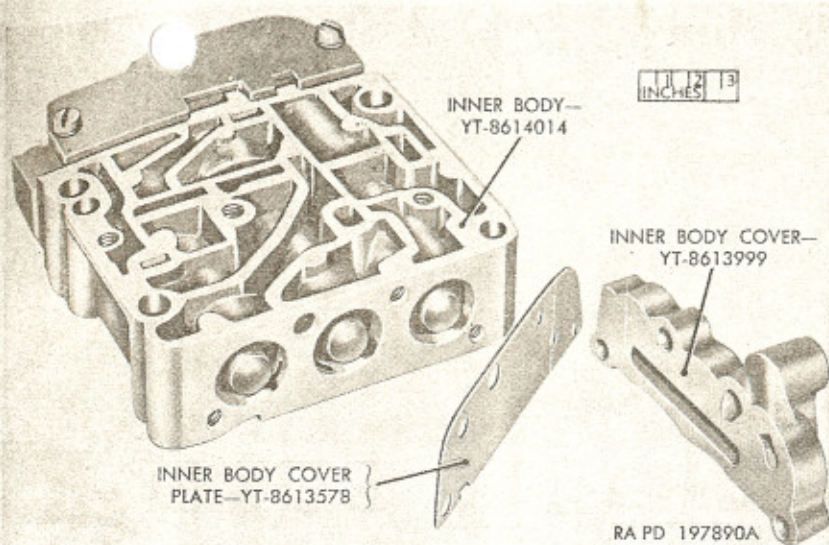
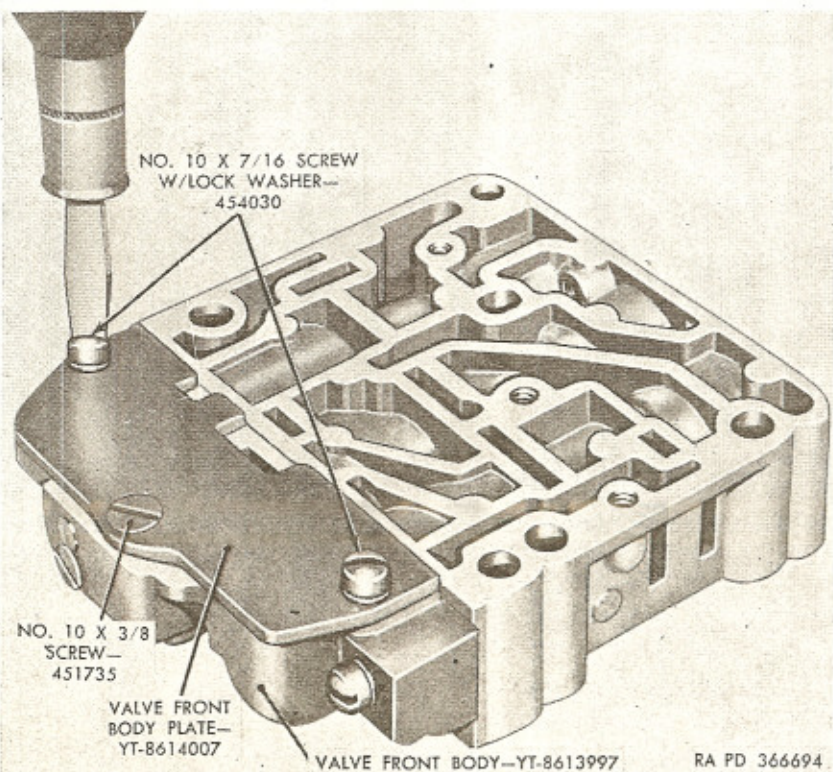
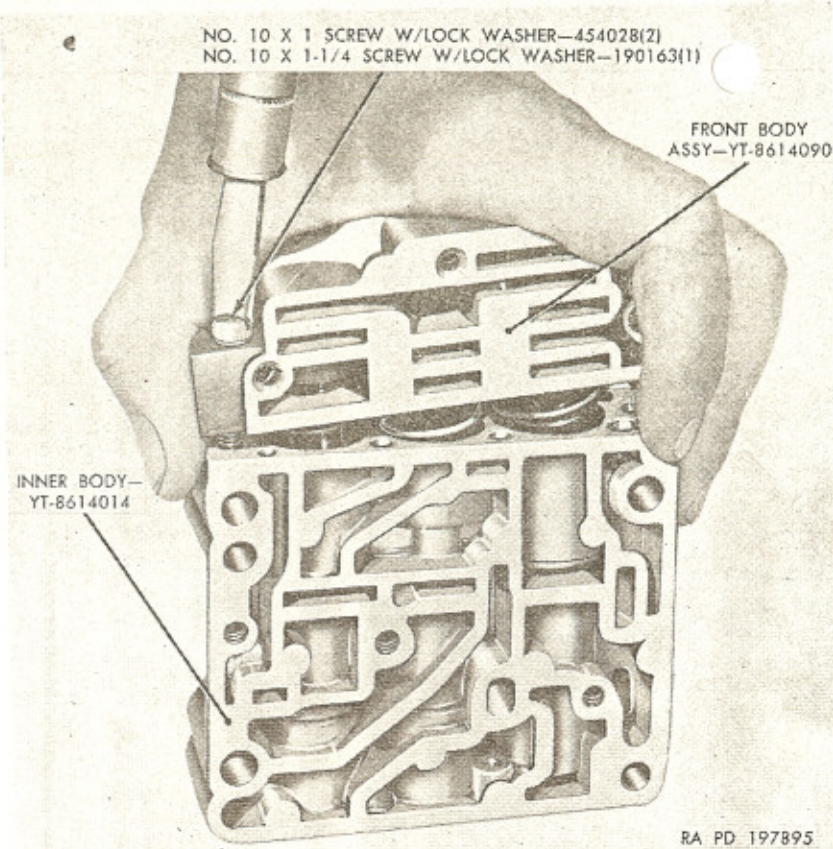
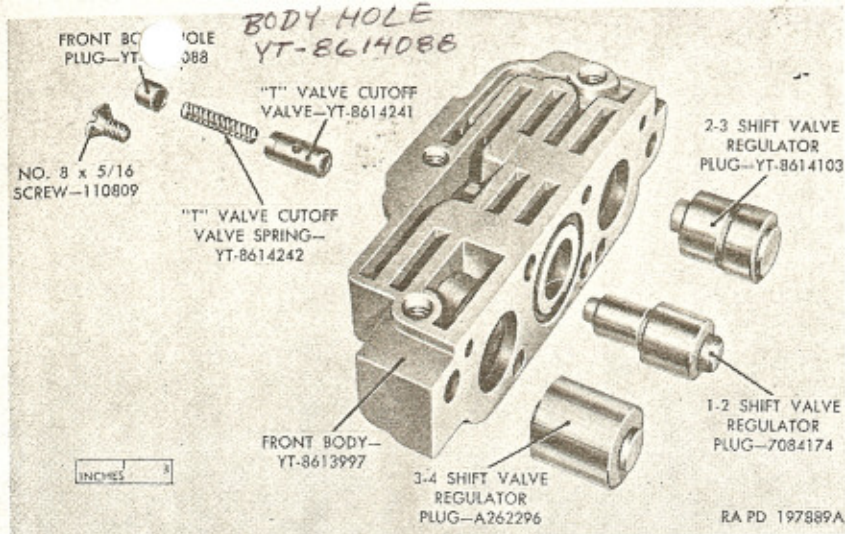

Figure 55. Control valve inner body cover removed.
Figure 56. Removing or installing control valve front body plate.
Figure 57. Removing or installing control valve front body assembly.
Figure 58. Control valve front body disassembled.
d. Remove three screws (MM) holding inner body cover (NN) to inner body (RR); then remove cover and inner body cover plate (PP) (fig. 55).
e. Remove three governor plugs (QQ) from inner body (RR).
f. Remove three screws (AL and AM) holding front body plate (AK) to front body (AC) (fig. 56); then remove front body plate.
g. While holding valve bodies together as shown in figure 57, remove three screws (AD and AE) attaching front body (AC) to inner body (RR). Separate the bodies; then remove 1-2, 2-3, and 3-4 shift valve regulator plugs (ZZ, YY, and AB) from front body (fig. 58) by striking body into palm of hand.
h. Remove screw (AH) holding front body hole plug (AF) in front body (AC). Jar front body hole plug (AF), "T" valve cutoff valve spring (AG), and "T" valve cutoff valve (AJ) free from front body (fig. 58) by striking body into palm of hand.
m. Install the 1-2 shift valve regulator plug (ZZ), 2-3 shift valve regulator plug (YY), and 3-4 shift valve regulator plug (AB) in front body (AC) (fig. 58). Try each plug for freeness in its respective bore.
n. Lay front body (AC) and inner body (RR) on a clean surface. Line up 1-2 and 2-3 shift valve regulator plug springs (WW and XX) in inner body with regulator plugs in front body
(AC). Compress the springs with front body; then install one No. 10 x 1 1/4 screw with lockwasher (AE), and two No. 10 x 1 screws with lockwashers (AD) attaching front body to inner body (fig. 57). Tighten screws to 3 to 4 pound-feet torque.
o. Install three governor plugs (QQ) in inner body (RR). Check action of each shift valve by pushing against each governor plug with enough force to compress valve and regulator springs.
p. Position inner body cover plate (PP) and inner body cover (NN) on inner body (RR). Install three No. 10 x 3/4 screws with lockwashers (MM) attaching inner body cover (NN) to inner body (RR). Tighten screws to 3 to 4 pound-feet torque.
q. Position front body plate (AK) on front body (AC); then install one No. 10 x 3/8 screw (AL) and two No. 10 x 7/16 screws with lockwashers (AM) attaching plate to front body. Note that center screw (AL) has a flathead. Be sure valve front body plate (fig. 56) does not extend over face of inner body. Tighten screws to 3 to 4 pound-feet torque.
r. Position inner and outer body spacing plate (JJ) on inner body (RR).